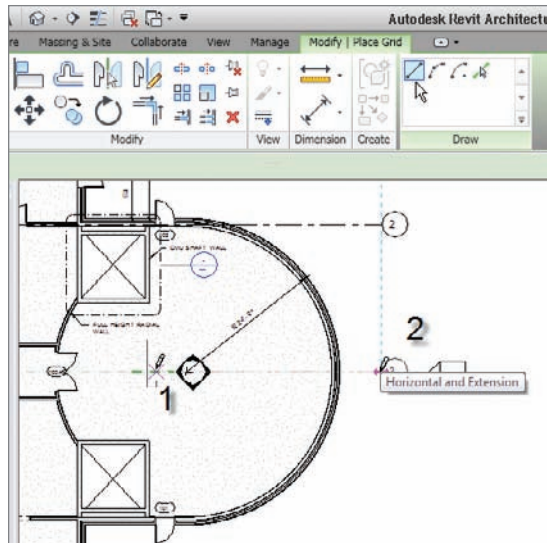

FIGURE 8.6 Adding grid 3 at the center of the building
3. Pick a point along the center reference plane, as shown in Figure 8.6.
4. Pick a second point in alignment with grid 2 (see Figure 8.6).